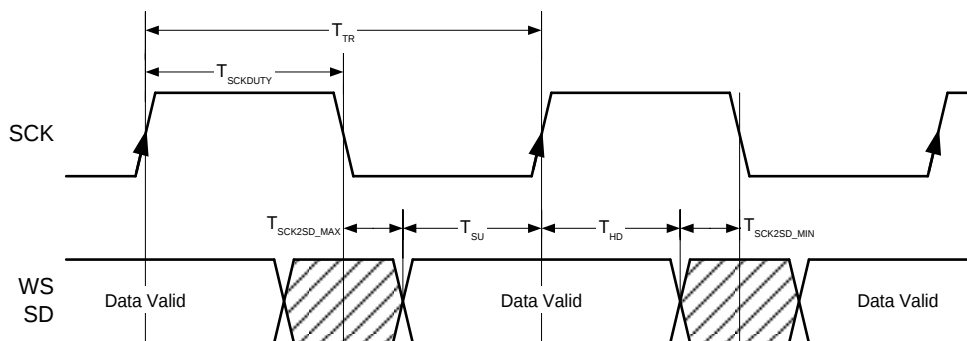

Figure 4.8. I²S Output Timings
- Refer to Figure 4.8. Meets timings in Philips I²S Specification.
Valid serial data is available at T_{sck2sd} after the falling edge of the first SCK cycle, and then captured downstream using the active rising edge of SCK one clock period later. The setup time of data to SCK (T_{SU}) and hold time of SCK to data (T_{HD}) are therefore a function of the worst case SCK-to-output data delay (T_{sck2sd}). Figure 4.8 illustrates this timing relationship. Note that the active SCK edge (rising edge) is shown with an arrowhead. For a falling edge sampling clock, the logic is reversed.